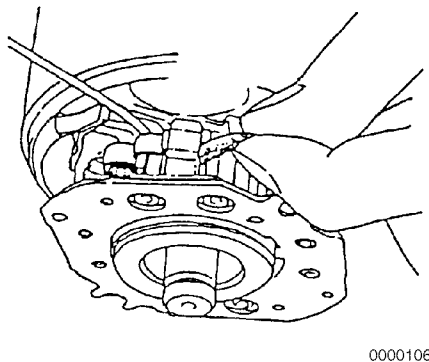

Figure 11-31
8. Position the brush springs in brush holders (Figure 11-31). Reinstall the brushes in the brush holders. Reversing the brushes will cause the starter motor to turn backwards.